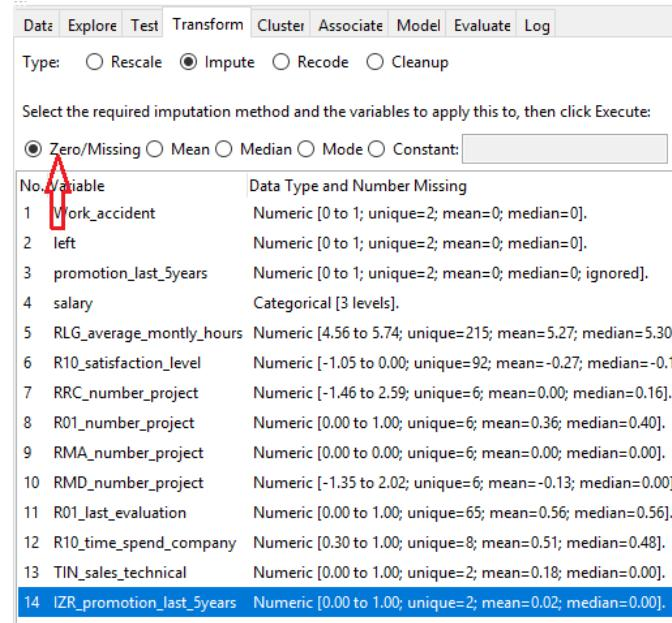

Figure 19
a. Zero/Missing: Replace numerical values with 0 and categorical values with categorical values (**Figure 19**).